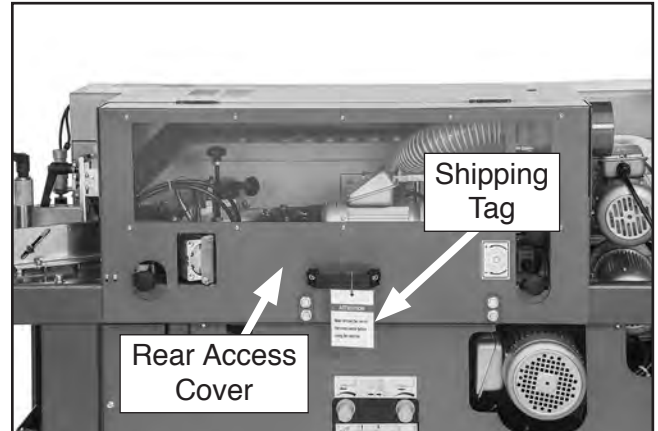

Figure 32. Location of rear access cover shipping tag to be removed.
14. Remove shipping tag from rear access cover, then open cover and remove shipping tag from end-trimming motor (see **Figures 32–33**).